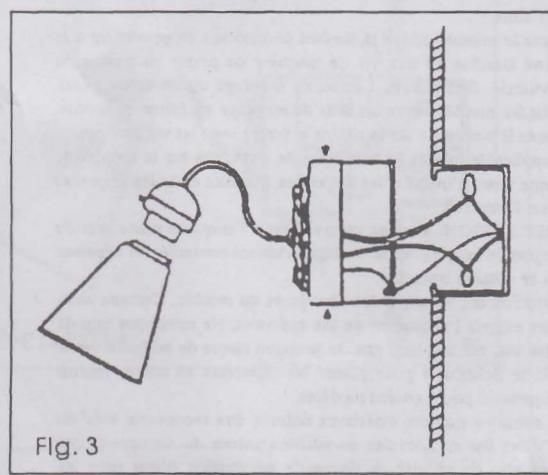

Fig. 3
3. Fasten the mounting bracket to the outlet box using the two screws supplied with the outlet box if your fixture is supplied with a channel shape mounting bracket with keyhole slots for attachment to the mounting surface (see Fig. 3). It will be necessary to mark the location of the keyhole slots on the mounting surface and drill holes for fasteners (not provided). Use fasteners suitable for the mounting surface. The narrow end of the keyhole slot should face up.